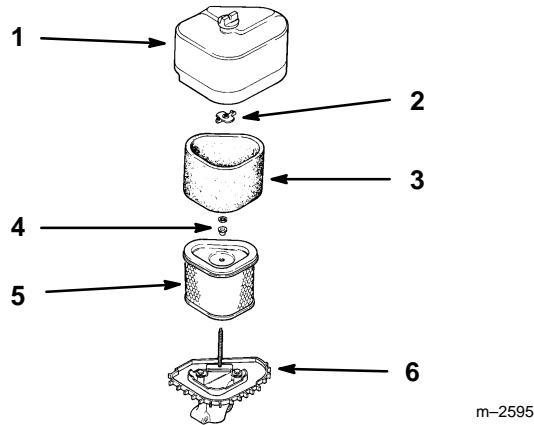

Figure 22
2. Clean around the air cleaner to prevent dirt from getting into the engine and causing damage. Unscrew the cover nut and remove the air cleaner cover (Fig. 22).
3. Remove the air cleaner assembly (Fig. 22).
4. Carefully slide the foam element off the paper element (Fig. 22).
- Carefully slide the foam element onto the paper air cleaner element (Fig. 22).
- Place the air cleaner assembly onto the air cleaner base (Fig. 22).
- Install the air cleaner cover and secure with cover nuts (Fig. 22).